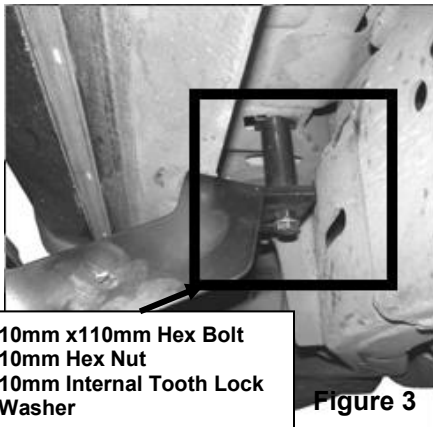

Figure 3
- Partially hang driver front Mounting Bracket (again refer to figure above for bracket configuration) to pinch weld using (1) 10mm x 30mm Hex Head Bolt, (1) 10mm Hex Nut, (1) 10mm Lock Washer, and (1) 10mm Flat Washer (**Figure 3**). **NOTE:** If vehicle is equipped with factory running boards, use the factory bolt to attach Mounting Bracket to pinch weld.
- Place (1) 65mm (smaller) Tube Spacer between the Mounting Bracket and the already installed Clip Nut. Insert (1) 10mm x 110mm Hex Head Bolt through tab on the Mounting Bracket and Tube Spacer and to Clip Nut (**Figure 3**). Do not tighten at this time.